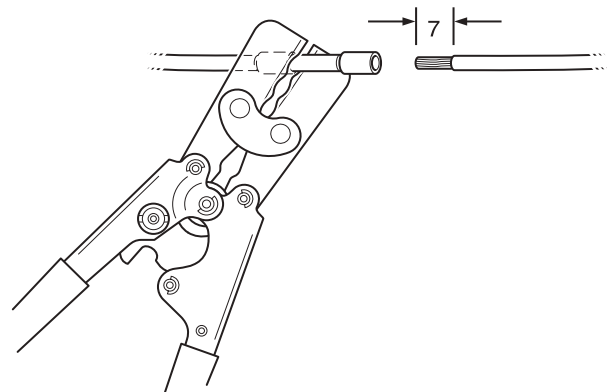

Fig 181.
- 2 Using the correct sized splice, attach the new section of wire required or auxiliary flying lead to the existing harness and secure using the crimp tool. ⇒ Fig 181. \(C-174\). Note that each of the splices detailed is colour-coded to make size and range